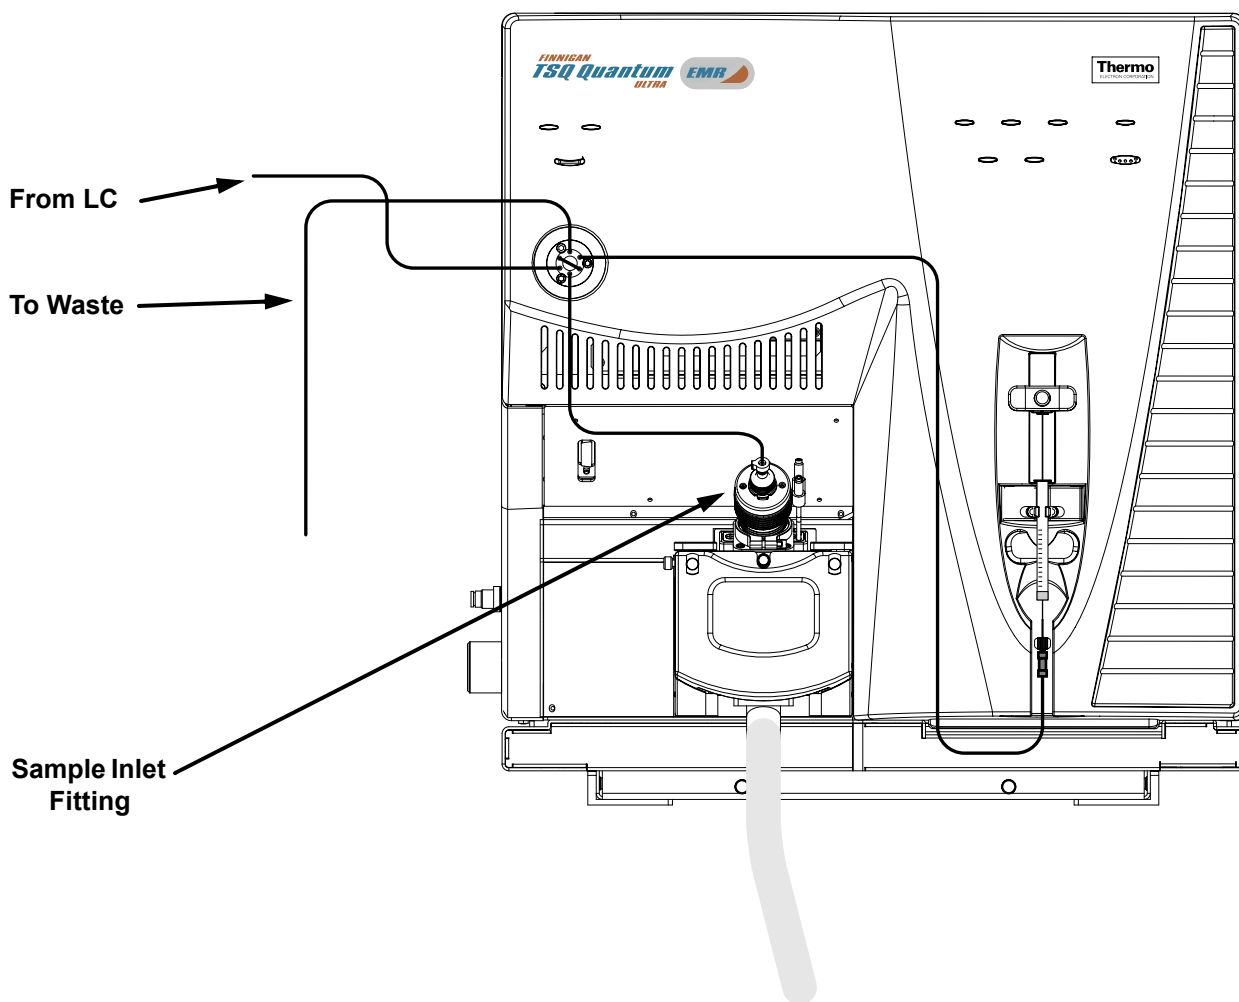

Figure 7-1. APCI/MS plumbing connections for sample introduction by auto loop injection into the solvent flow from an LC
The following procedure describes how to introduce your compound by auto loop injection. The plumbing connections for APCI/MS sample introduction from the syringe pump into the solvent flow from an LC are shown in Figure 7-1.
- c. Connect the other end of the tubing with a fingertight fitting and a ferrule to the sample inlet fitting (LC inlet). (Figure 7-1)